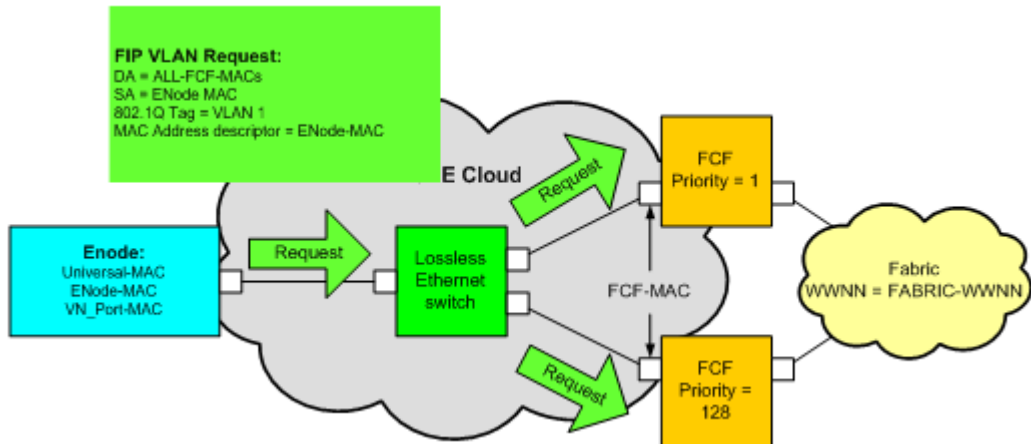

Figure 14 FIP VLAN Request
After the DCBX protocol has successfully completed, FCoE initiators or targets should begin the Virtual Link instantiation process by transmitting a FIP VLAN Request. See Figure 14.
As shown in Figure 14, an ENode has transmitted a multicast FIP VLAN Request to the Multicast Destination Address (DA) of ALL-FCF-MACs. When this multicast frame is received by the switch, it is transmitted on all active switch interfaces other than the one that it was received on. An important point to note about this frame is that the 802.1Q Tag contains the default VLAN ID of 1. This is done because the standard specifies that all Fibre Channel Forwarders (FCFs) should be listening on VLAN 1 for FIP VLAN Requests.